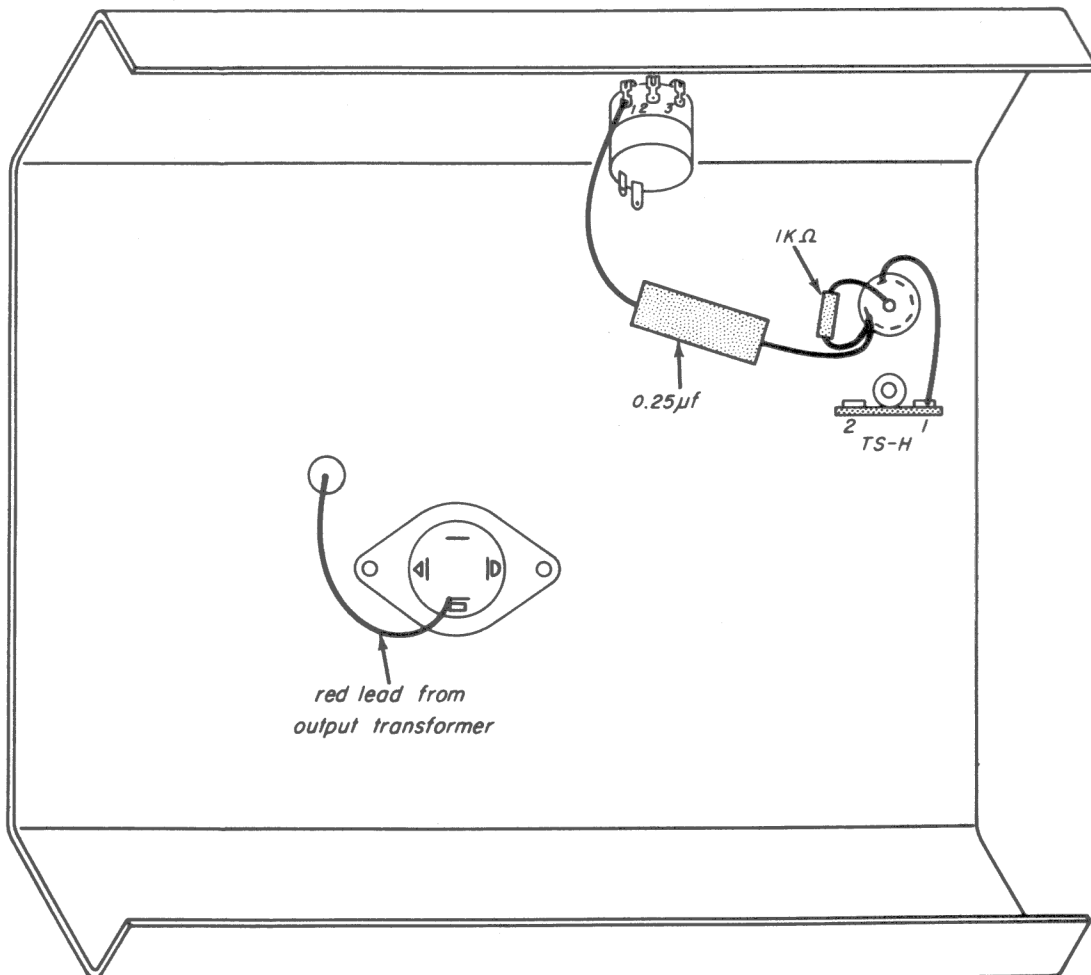

Fig. 27-13
Step 2. Disconnect the lead at lug 1 of TS-J, and connect it to pin 1 of the 6BA6 tube, as in Fig. 27-13.